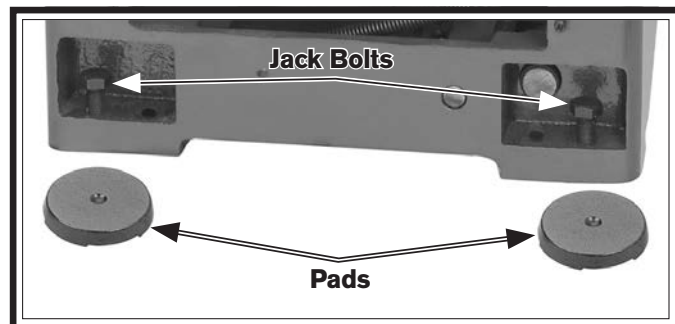

Figure 22. Leveling pads and screws.
- If using the included leveling pads (see **Figure 22**), place them under the six leveling jack bolt locations, then adjust the bolts to level the lathe.